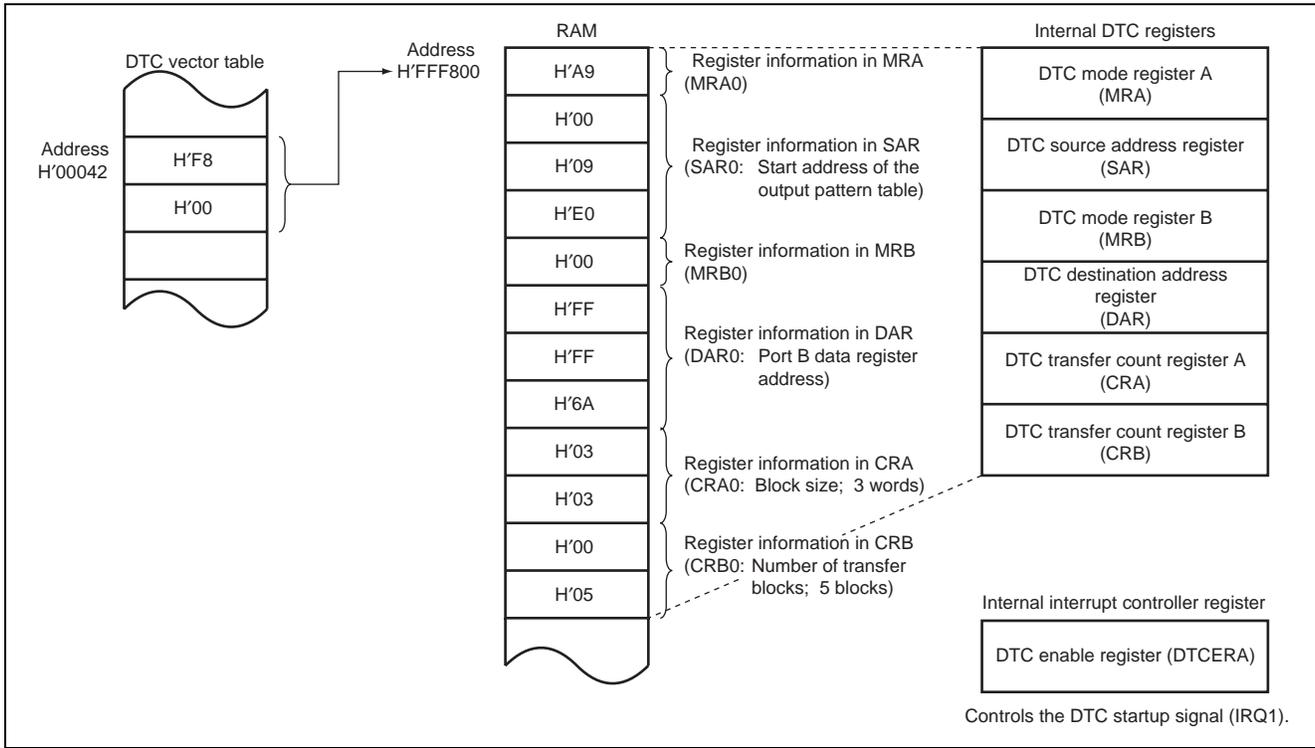

Figure 3 DTC Vector Table and Allocation Example in Memory
B. The DTC vector table and its allocation in memory are shown in figure 3. DTC register information is allocated in the order of MRA, SAR, MRB, DAR, CRA, and CRB from address H'FFF800.